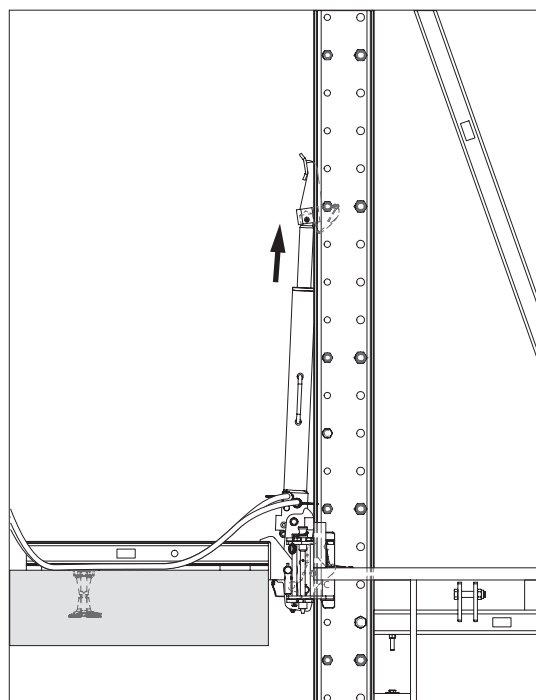

Fig. D4.07
2. By repeating steps 3 to 6 several times, the climbing unit is gradually climbed upwards in increments of 50 cm. (Fig. D4.07)